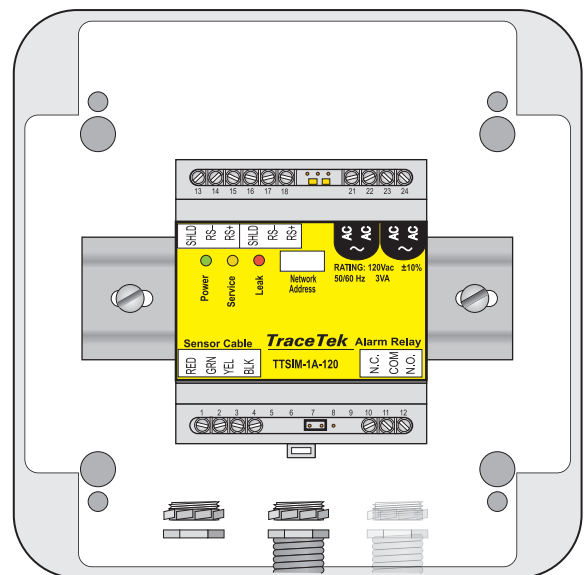

Figure 2. NEMA 4X enclosure
### Mounting the TTSIM-1A module in the optional NEMA 4X Enclosure – Figure 2
- A typical outdoor or harsh environment installation will require three holes in the TTSIM-ENC: one for inbound power and telemetry, one for outbound power and telemetry and one for the sensor cable leader. See Figure 2.